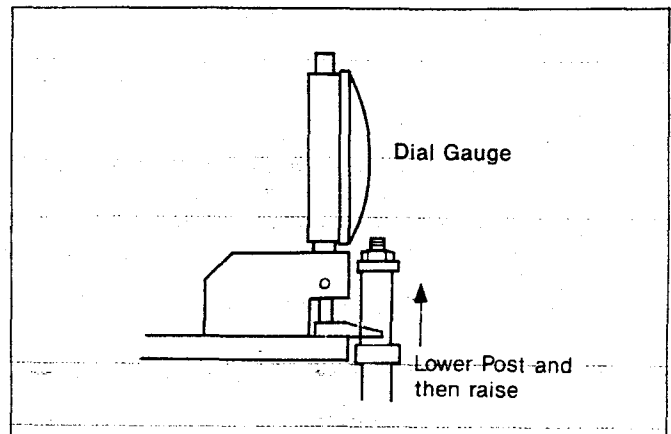

Fig. 17
2. At first lower all the posts so that the condition of height becomes as shown in Fig. 17.